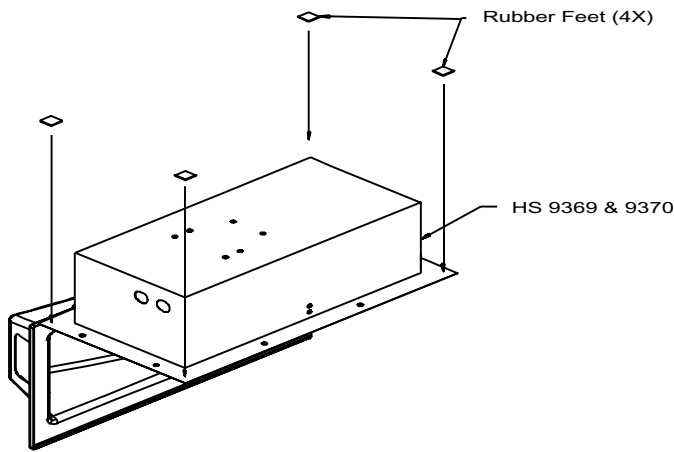

Figure 2: Mounting Feet Assembly
4. Attach the rubber mounting feet (provided) to each corner of the backbox. See Figure 2.